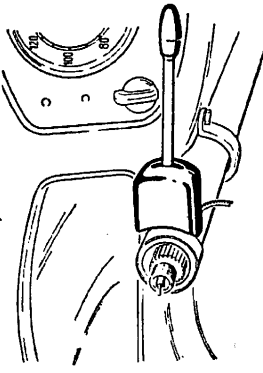

Fig. 39 Fix automatic return switch on the steering column
5. Fit fixing strap with lock on steering column (Fig. 39); fix automatic return switch (with cable) in turnbuckle though as yet not tightening it fully.